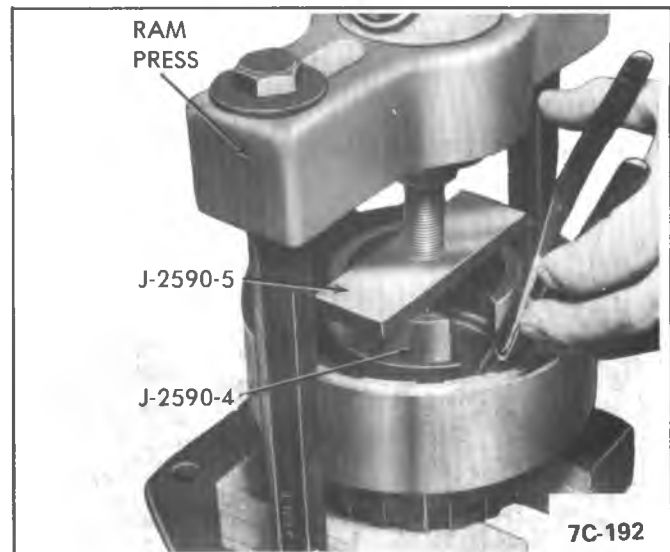

Figure 7A3-92 Forward Clutch Piston Snap Ring Removal
8. Make certain forward clutch ball check exhaust is free of dirt, etc. See Figure 7A3-96.
9. If the input shaft is scored excessively (Figure 7A3-97) it may be replaced using the following procedure.